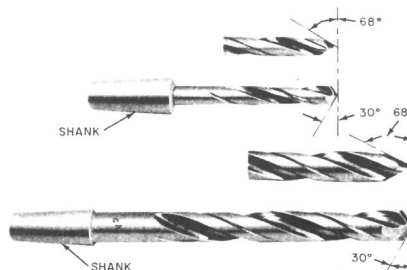

FIGURE 2. Masonry Drills
- 2.02 The masonry drill has a spiral fluting similar to that in twist drills used for drilling metal. The shank of the drill is tapered to fit the socket of the drill holder. See Figure 2.